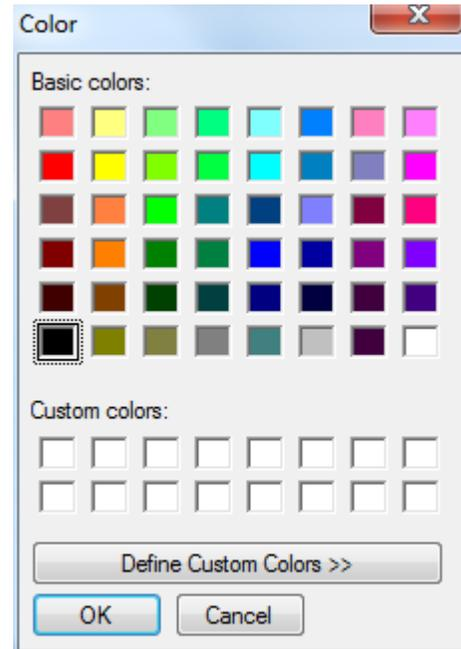

Figure 193- Background Colors
*First Color:* user can choose first color of the background from Figure 193.
*Second Color:* it is the second color of the background which can be select from Figure 193.